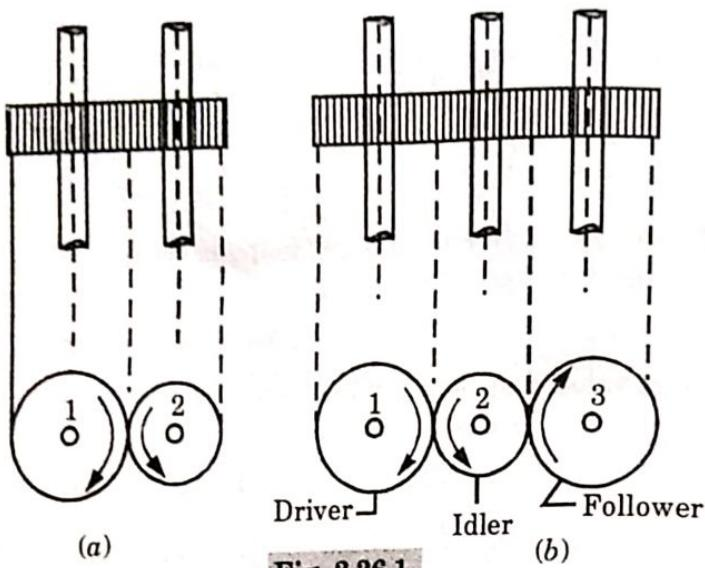

Fig. 2.26.1.
2. Fig. 2.26.1(a) and (b) shows simple gear trains of two and three gears respectively.
5. The directions of rotation of 1 and 2 are opposite to each other and that of 2 and 3 are opposite so directions of 1 and 3 [Fig. 2.26.1(b)] are same.